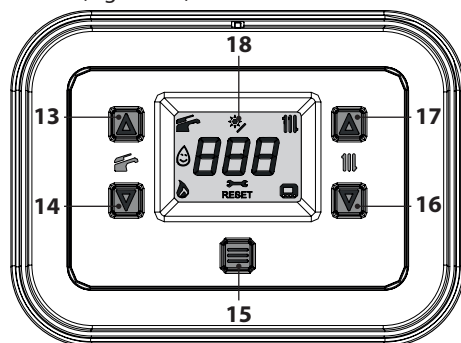

Figure 3.3
If the room temperature is too high, do not adjust the radiator cocks but decrease the heating temperature setting using the room thermostat or the heating control buttons 16 and 17 (Figure 3.3).
To restore operation, press the reset button 15 (Figure 3.3) on the boiler control panel.
After three reset attempts made by pressing the reset key 15 (Figure 3.3), code "E91" and
To restore boiler operation, disconnect the electrical power supply. Then, reconnect it and press buttons 13, 14 and 15 (Figure 3.3) on the boiler control panel at the same time for at least 5s.